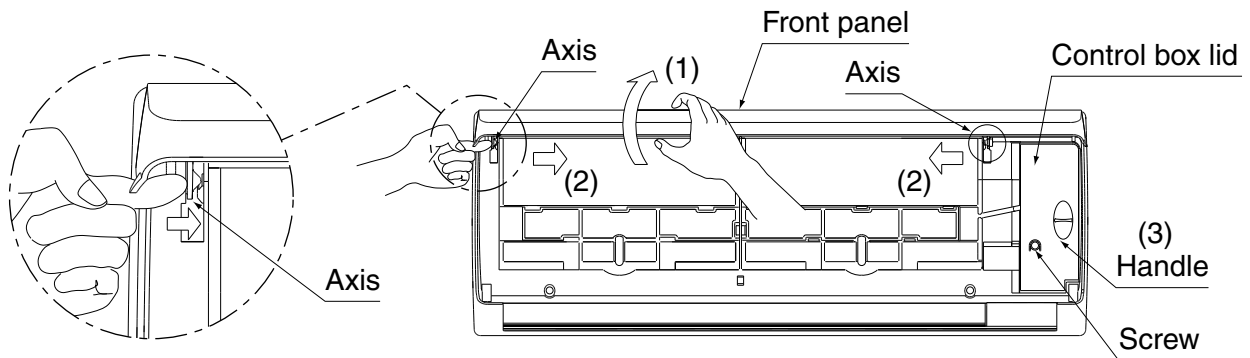

Fig. 6
(1) Remove the front panel and the control box lid. (Refer to Fig. 6)